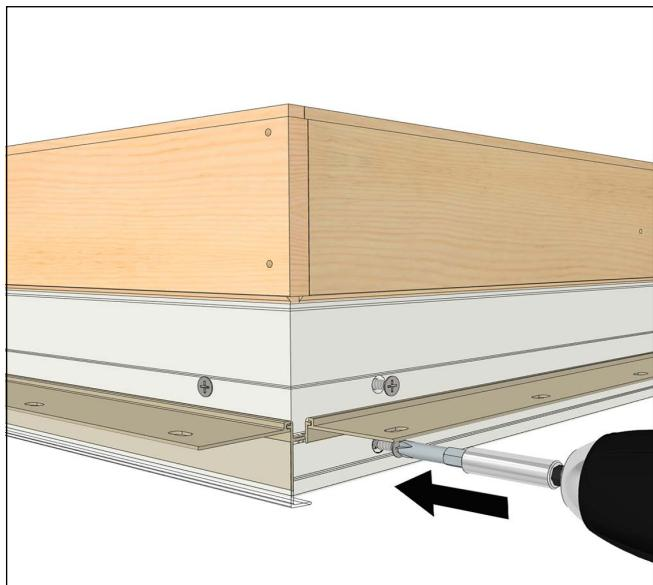

Figure 2
2. Fasten the side jambs to the head jamb. Do not overtighten miter joint. See Figure 2.